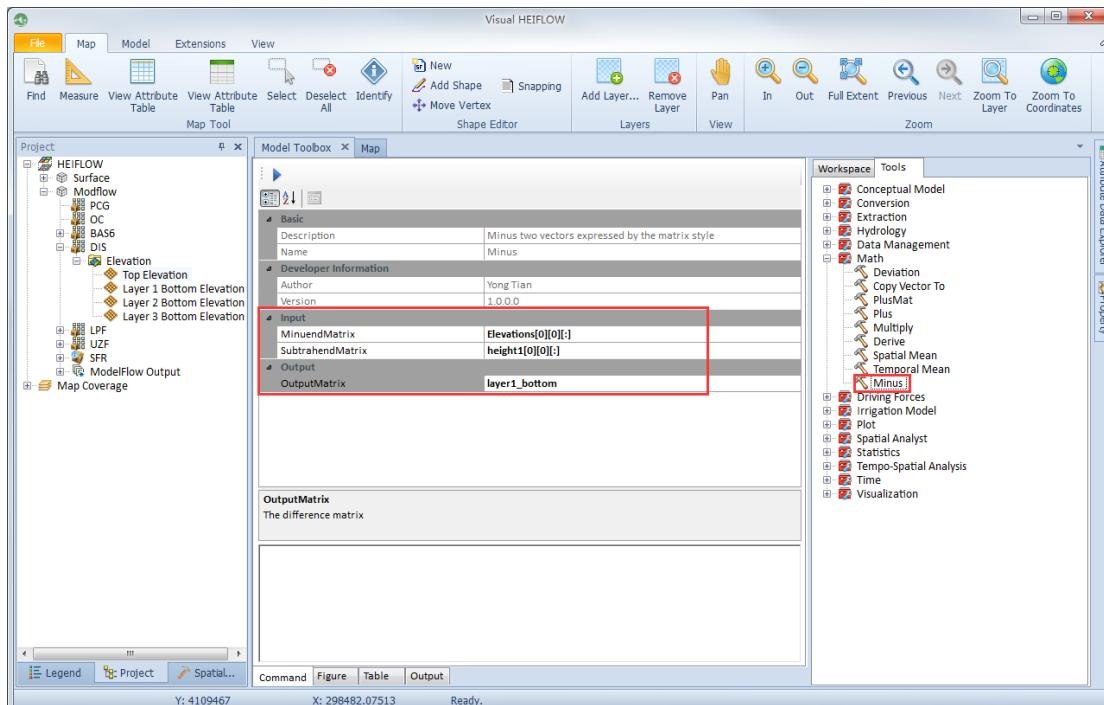

Figure 5-22. Calculating bottom elevation of layer 1 by using the Minus tool.
- 7) Locate the “Minus” tool in the Tools Panel, and double click it. Set its Input and Output according to Figure 5-22: